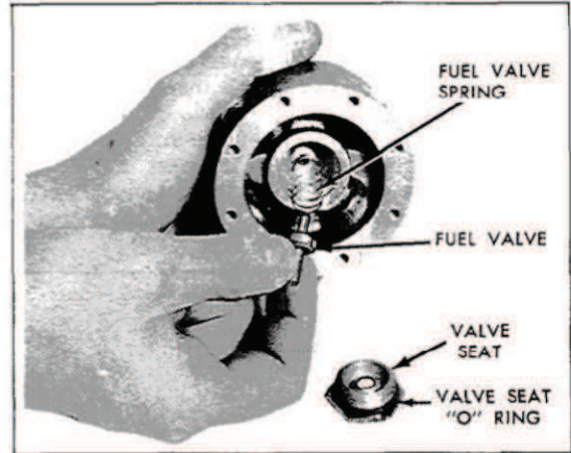
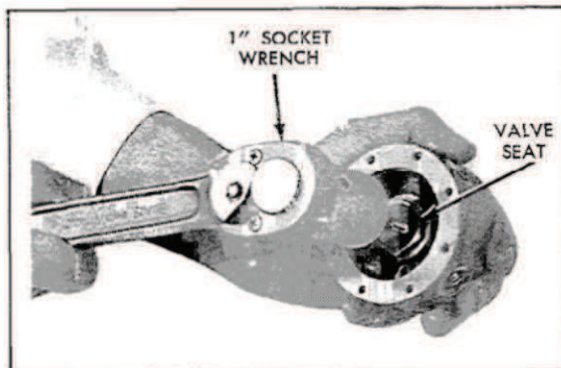

FIG. 10
FIG. 9
1. Place fuel valve spring over boss in center of vaporizer body and place fuel valve on spring with shortest stem toward casting. Make sure top of spring is resting on machined shoulder of fuel valve (Fig. 10).
2. Place a new valve seat O-ring on valve seat (Fig. 10) and install valve seat in vaporizer body. Tighten valve seat with a 1" socket wrench. (Fig. 9).